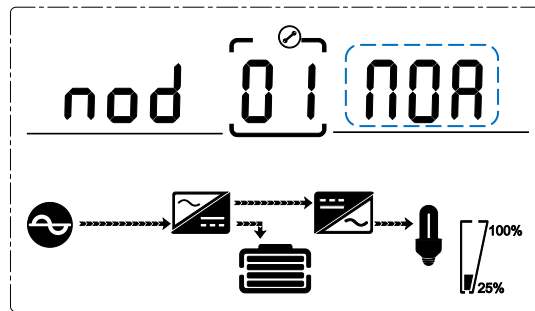

Fig. 4-13 Mode setting
After entering the setting menu, it will start on initial menu setting mode (01), and the menu setting number will be flashing. (Fig. 4-13).